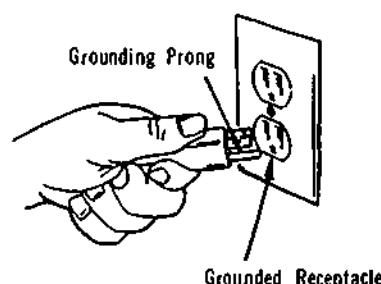

Figure 19-1. Grounding Prong
- a) Electric 110 V and 240 V tools should be equipped with a three-pronged grounding plug for safety. When the plug (Figure 19-1) is inserted in a properly grounded receptacle it will protect you against shock if the insulation fails or if a short circuit occurs.